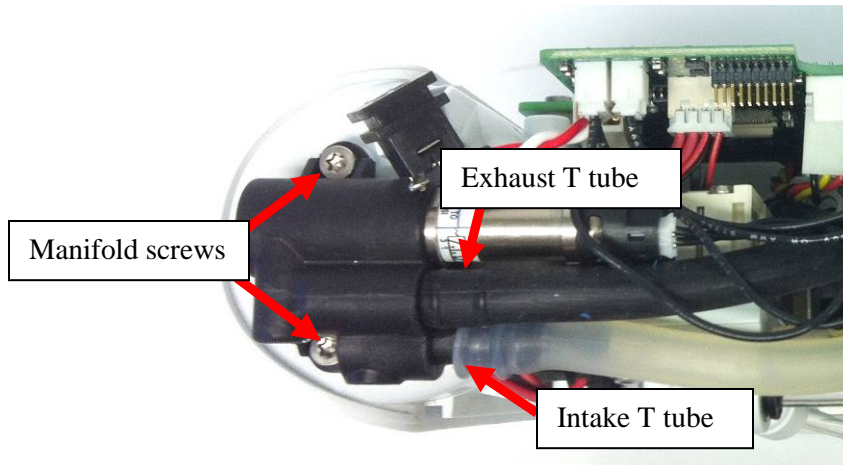

Figure 10: Tubing and screws attached to feed waste manifold
3. Unscrew the two screws connecting the manifold to the chassis (Figure 10) and remove the manifold.
1. Install the new manifold onto the chassis with the same orientation and replace the two screws to secure it to the chassis (Figure 10). Tighten screws to 6 in-lbs.
2. Secure the open ends of the exhaust T tube and the intake T tube onto the new manifold as shown in Figure 10. Make sure both tubes pushed onto the barbs as far as possible.